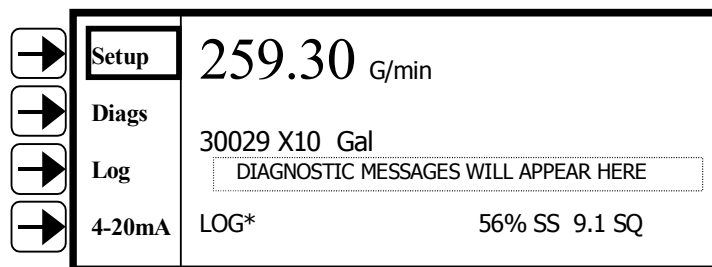

Figure 6.2a – Flow Screen
1. Look at the bottom right corner of the Flow screen. (See Figure 6.2a – Flow Screen, below.)